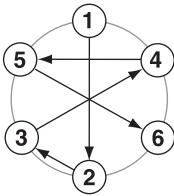

Figure 7-7 Torque pattern
4. Using the pattern in Figure 7-7, finger-tighten the fittings until they first seat against the PTFE seal. The pattern begins with the injection port.